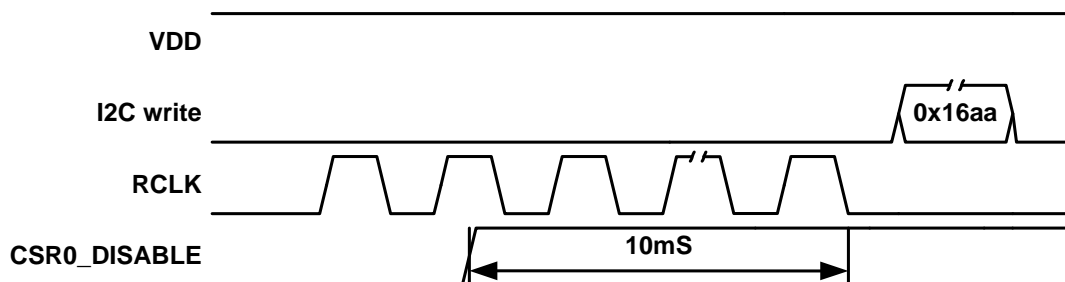

Figure 3. Power down sequence
3. Write 0x16AA to address 0 to power down the device. See Figure 3..